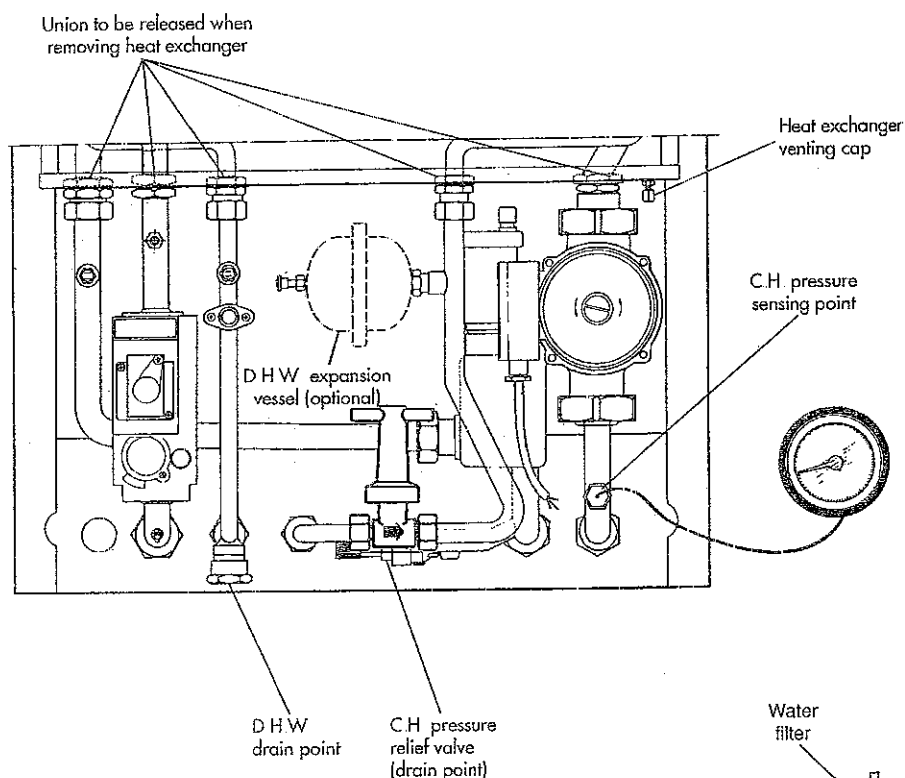

Fig. 37
- b) For replacement of parts where water connections are broken, it will be necessary to isolate and drain either or both the central heating or domestic hot water circuits of the boiler only. The cold water mains inlet is isolated at the inlet cock (fig. 1). The D.H.W. is drained via drain cap (fig. 37).
- Refer to section 1, items a, b, c, d, f and g (drain D.H.W. only fig. 37)
- Unscrew the pressure sensor from its housing (fig 37). (Access from below).
- Unscrew the expansion vessel (fig. 37). (Take care not to loose the sealing washer)